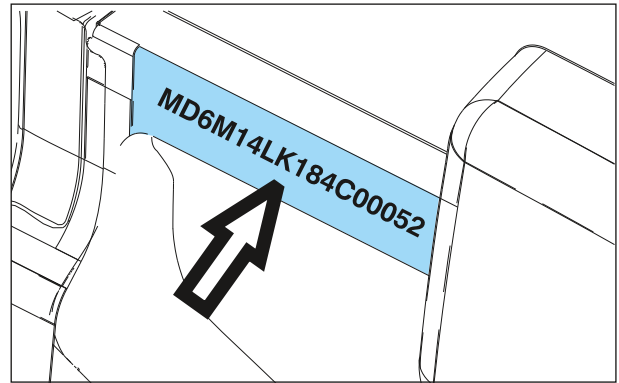

Fig. 1.1
- Chassis number can be located on the right side of 'B' pillar partition on the driver side as shown in the figure. (Fig. 1.1)